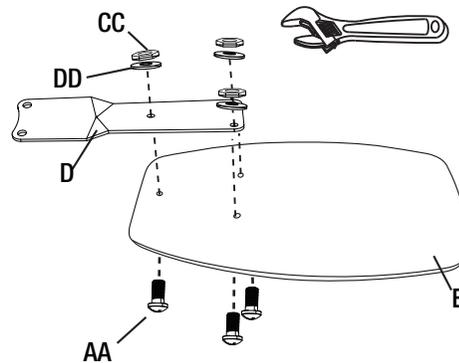

Figure 10
- Mount the blade holders (D) to the fan blades (E) using the blade screws (AA), hex nuts (CC) and flat washers (DD) provided - 5 each per blade (Figure 10).